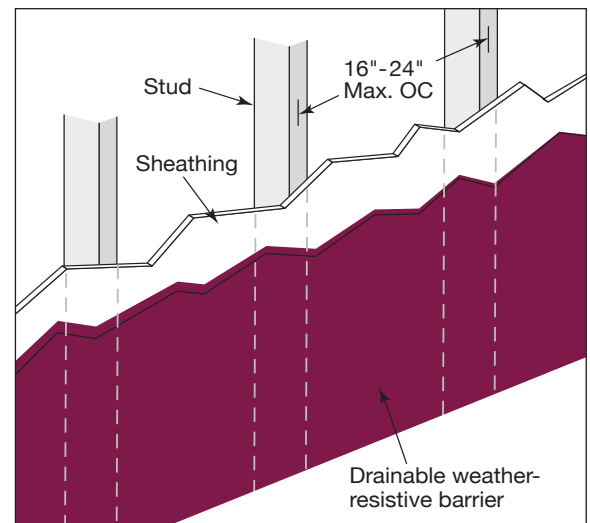

Fig. 2
- Always install drainable weather-resistive barrier according to local building code requirements (**Fig. 2**)